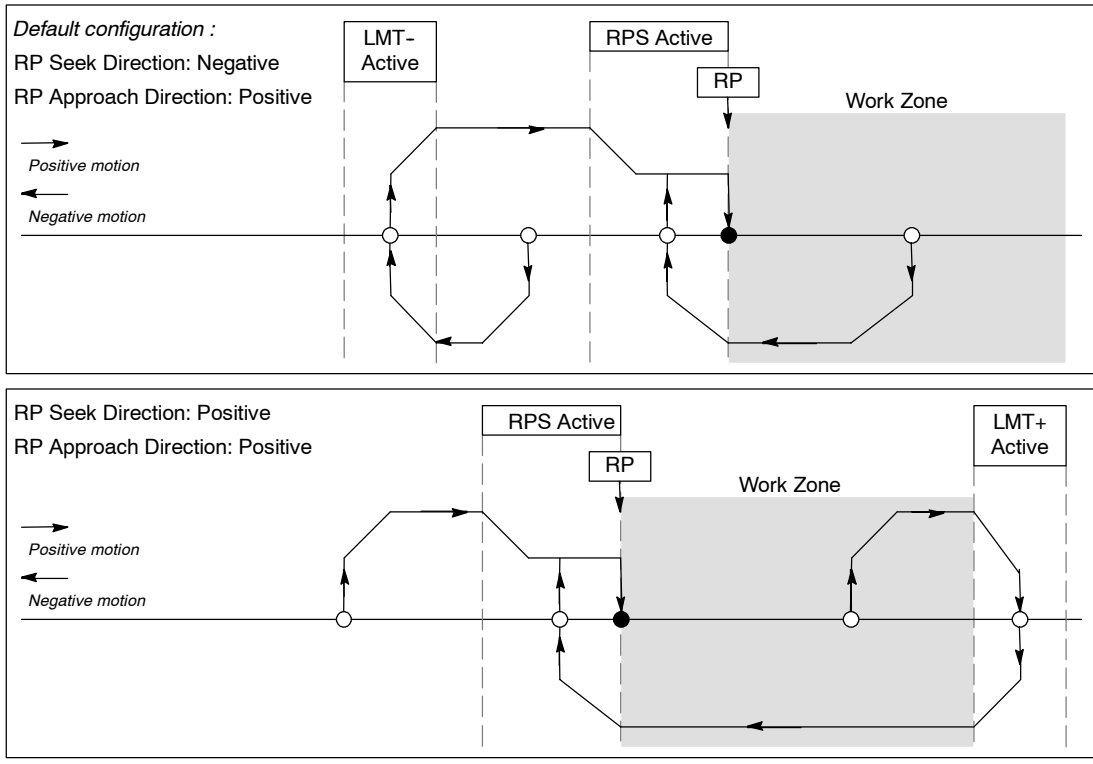

Figure 9-14 RP Seek Mode 1
For more information about the different RP seek sequences for the Position module, see Figures 9-14 through 9-17 on pages 254 through 255.
- Figure 9-14 shows two of the options for RP seek mode 1. This mode locates the RP where the RPS input goes active on the approach from the work zone side.